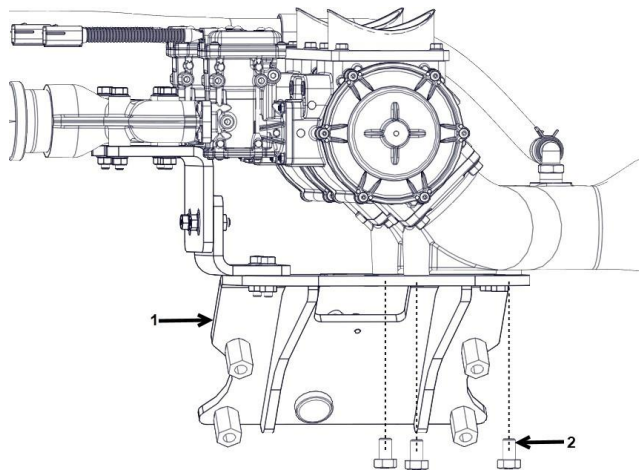

Figure 33. Dual Mixer Bracket Assembly
4. Remove the three hex cap bolts underneath the dual mixer bracket. (Refer to Figure33.)